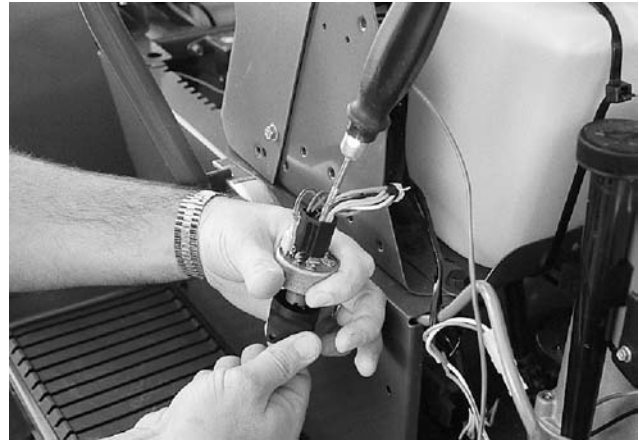

Figure 3-27.
16. Move the tester from the black lead to the orange lead. Turn the ignition key to the start position. If voltage is present, the ignition switch is good. If no voltage is present, replace the ignition switch. If the unit still fails to crank, continue testing. See Figure 3-27.